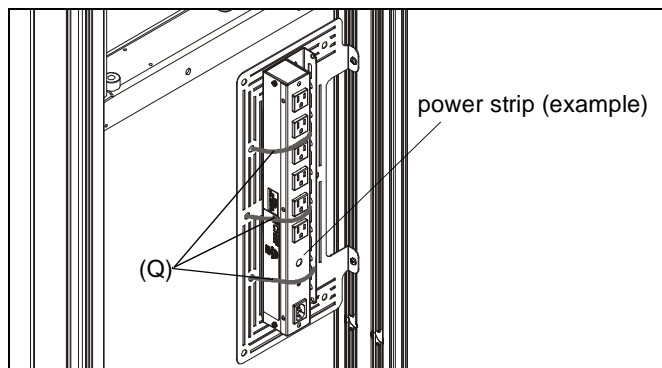

Figure 7
5. Install components to component bracket as desired using cable ties (Q), cable clips (BB) or screws. (See Figure 7)